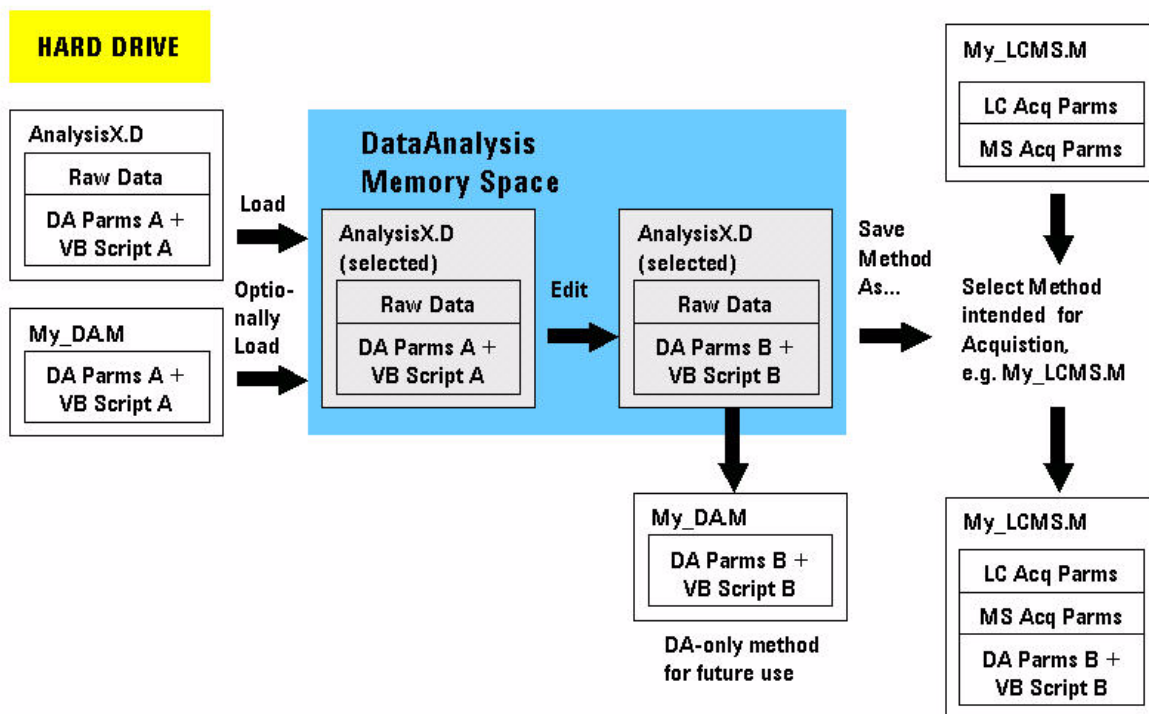

Figure 32 Add DA method part to LC/MS method through DataAnalysis
- Save the DA parameters and VB script loaded in DataAnalysis to the LC/MS method (Figure 32).